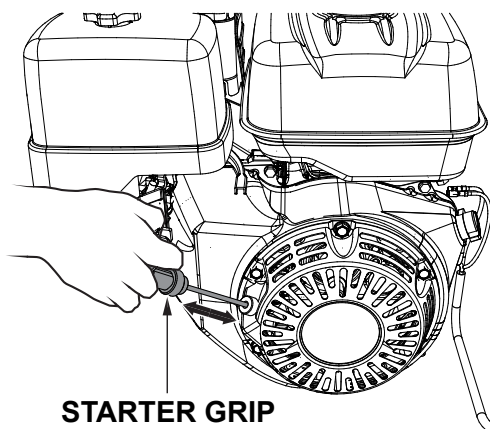

Figure 45. Starter Grip
6. Slowly pull the starter grip (Figure 45) until resistance is felt, then pull briskly and smoothly to start the engine. Gently return the starter grip to its original position.